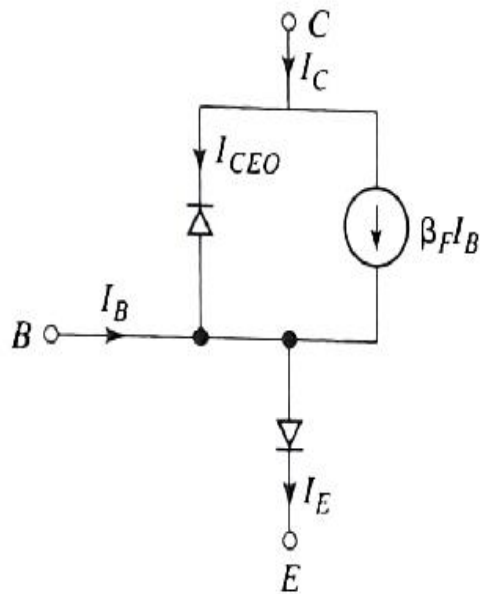

FIGURE 4.30
- The model of an NPN transistor is shown in Figure 4.30 under large-signal dc operation.